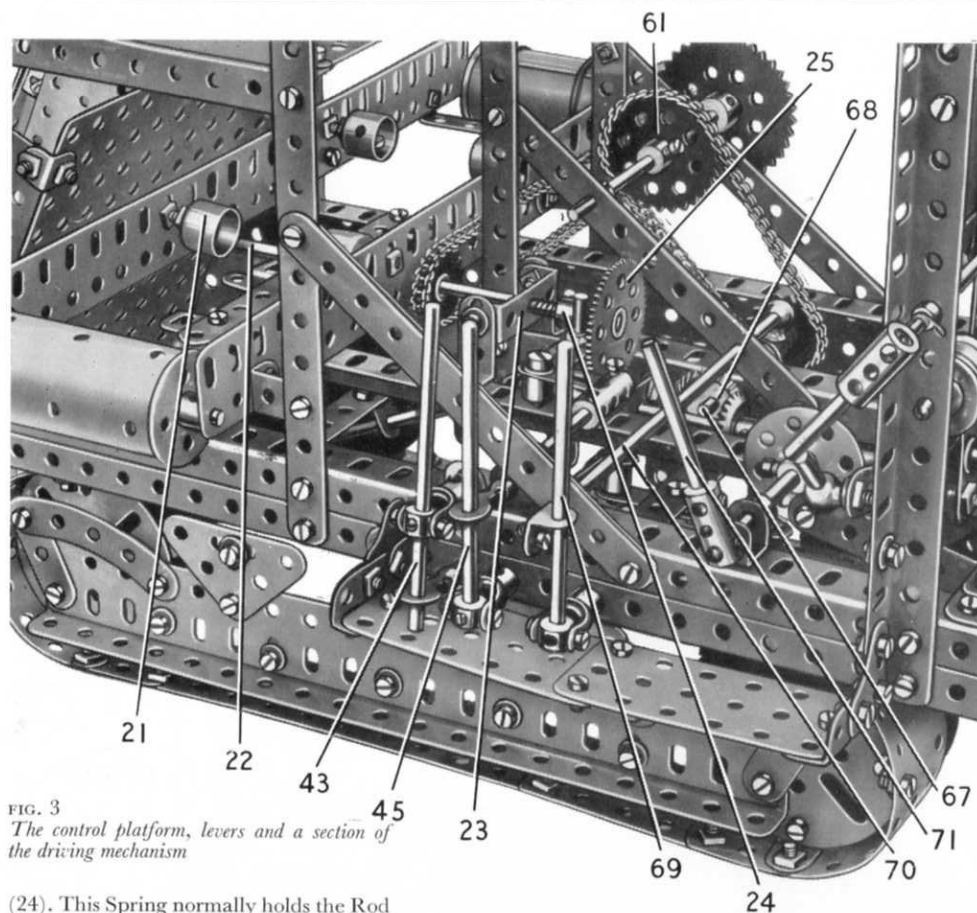
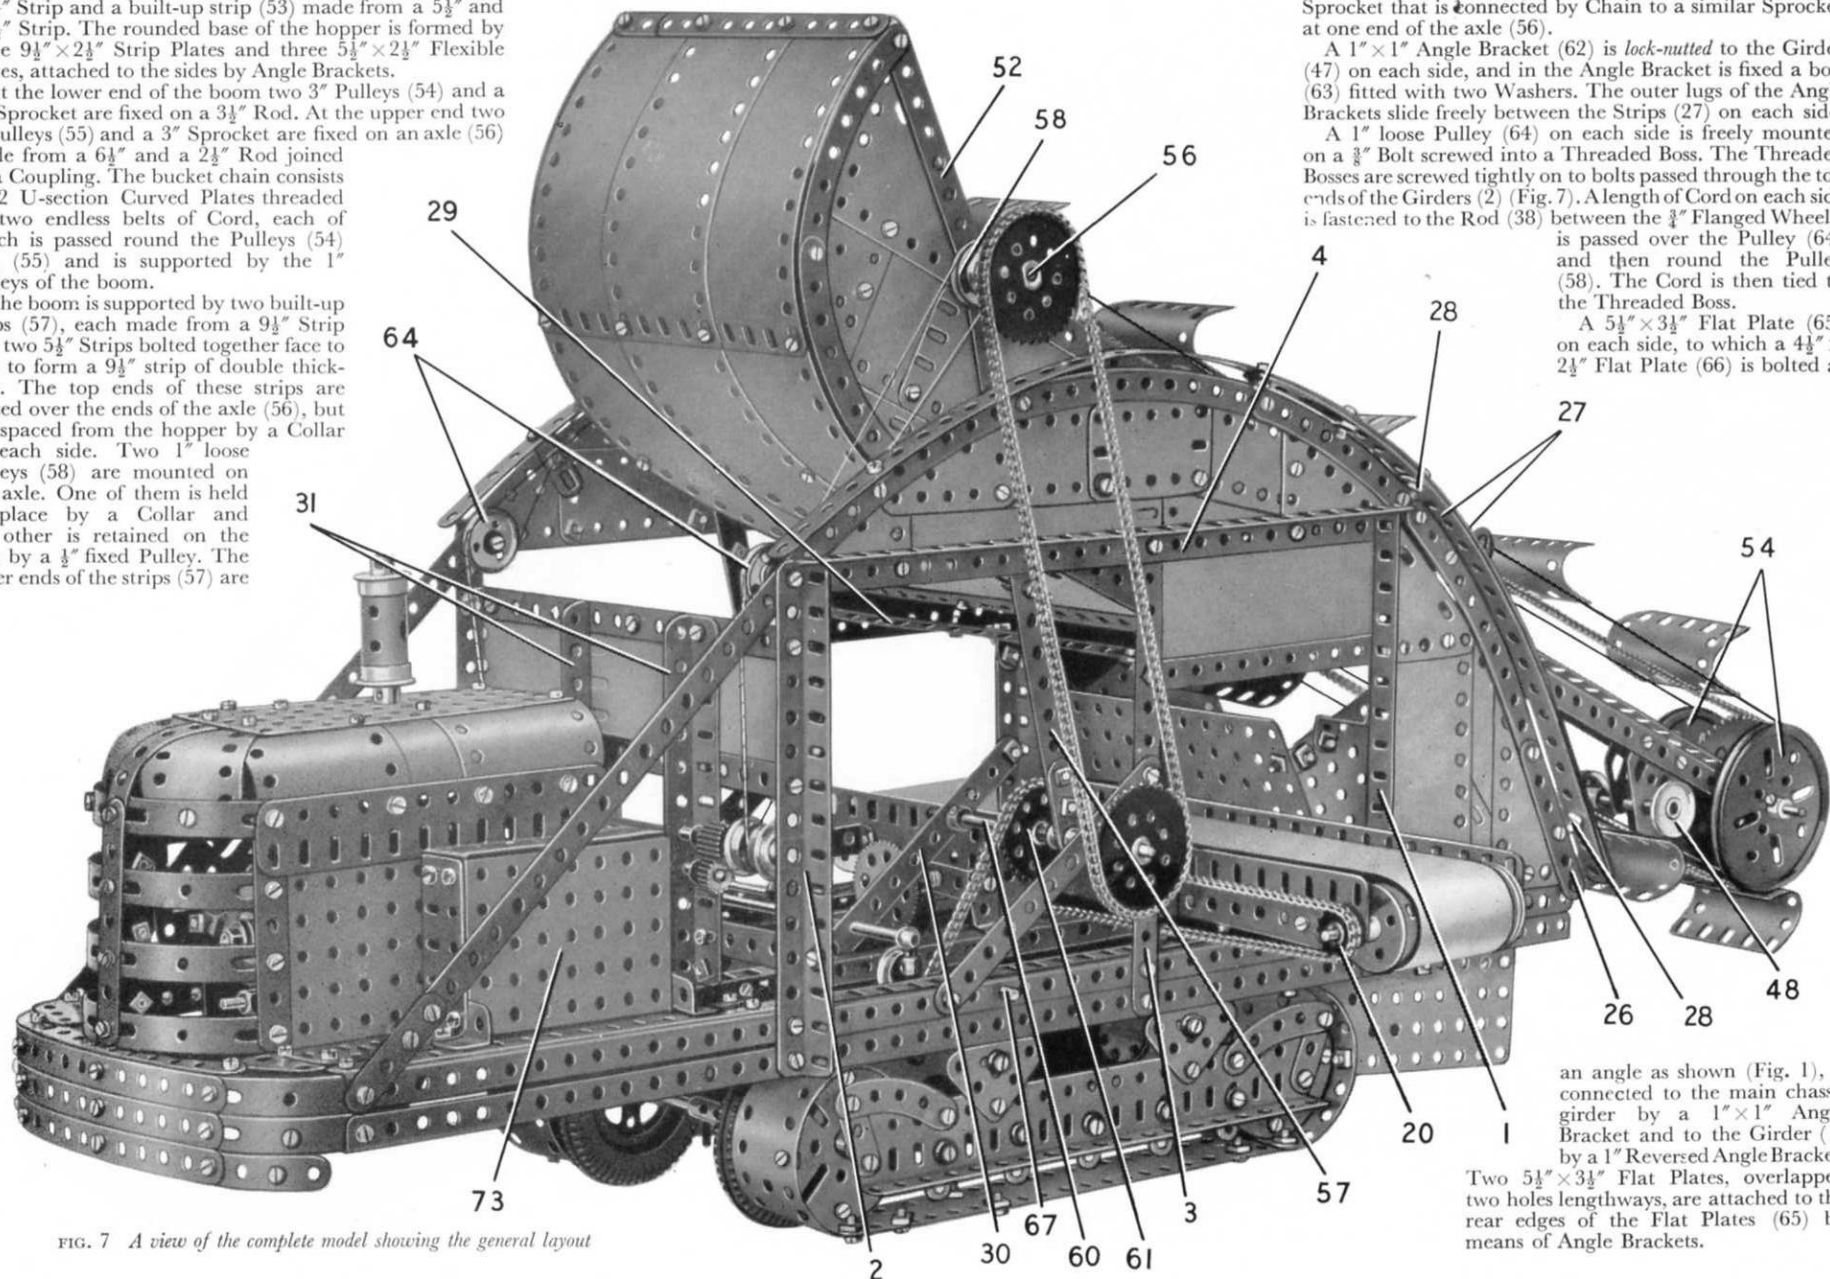

FIG. 3
FIG. 7 A view of the complete model showing the general layout
Each side-member of the chassis consists of two $2\frac{1}{2}$ " Angle Girders arranged to form a channel section girder by bolting to them two $7\frac{1}{2}$ " Angle Girders (1) and (2) and a $7\frac{1}{2}$ " Strip (3) (Fig. 7). The top ends of the Girders (1) and (2) and the Strip (3) are connected by bolting to them a $12\frac{1}{2}$ " Angle Girder (4). The side-members are connected by two built-up strips (5) and (6) (Fig. 2), each made from two $5\frac{1}{2}$ " Strips overlapped seven holes. Two similar built-up strips (7) and (8) are fixed in position, and a further built-up strip (9) (Fig. 3) is bolted across the chassis. The strip (9) is made from two $4\frac{1}{2}$ " Strips overlapped three holes. Two $18\frac{1}{2}$ " Angle Girders (10) are bolted to the strips (5) and (6) as shown.
The Motor switch is operated by a lever (71) (Figs. 3 and 6) formed by a $2\frac{1}{2}$ " Rod in a Coupling. The Coupling is fixed on a $3\frac{1}{2}$ " Rod mounted in Double Brackets bolted to the chassis, and the
The conveyor frame consists of two $12\frac{1}{2}$ " Flat Girders, one of which is attached to the Girders (1) (Fig. 7) by $1\frac{1}{2} \times \frac{1}{2}$ " Angle Brackets while the other is similarly attached to the Strips (3). A $3\frac{1}{2} \times \frac{1}{2}$ " Double Angle Strip (19) (Fig. 2) is bolted between the Flat Girders at one end.
The main conveyor rollers are formed by $1\frac{1}{4}$ " Flanged Wheels pressed into Cylinders, and each is fixed on a $4\frac{1}{2}$ " Rod mounted in the Flat Girders. The Rod that supports the driving roller carries a $\frac{3}{4}$ " Sprocket (20) (Fig. 7), and two $2\frac{1}{2}$ " Driving Bands are stretched round this roller. The belt can be made from a length of cloth or strong paper joined together at its ends. The supporting rollers (21) (Fig. 3) are Chimney Adap-
The Sprocket (20) is driven by a $1\frac{1}{2}$ " Sprocket on a $6\frac{1}{2}$ " Rod (22) (Fig. 3). This Rod is supported in the conveyor frame and in a $1\frac{1}{2} \times \frac{1}{2}$ " Double Angle Strip (23) that is attached to $1\frac{1}{2} \times \frac{1}{2}$ " Angle Brackets bolted to the Girders (10). A Compression Spring is fitted on the Rod between Double Angle Strip (23) and a Collar
(24). This Spring normally holds the Rod so that a 57-tooth Gear (25) on it is kept clear of the Pinion (15) (Fig. 8). The Gear and Pinion can, however, be brought into mesh by sliding the Rod, to engage the drive to the conveyor. The movement of Rod (22) is restricted by a Collar placed inside the conveyor frame, and is controlled by a lever (45) (Fig. 3). This lever is a $3\frac{1}{2}$ " Rod fixed in a Swivel Bearing attached to the chassis by a Pivot Bolt. The lever carries as shown a Rod and Strip Connector fixed on a $3\frac{1}{2}$ " Rod that slides in a Double Bracket bolted to the chassis. A Strip Coupling on the $3\frac{1}{2}$ " Rod is connected by a $\frac{3}{8}$ " Bolt to one arm of a Bell Crank, and this is mounted freely on a Pivot Bolt fixed in one of the Girders (10). The other arm of the Bell Crank carries a Threaded Pin that engages between the Collar (24) and the Gear (25).
A 1" loose Pulley (64) on each side is freely mounted on a $\frac{3}{8}"$ Bolt screwed into a Threaded Boss. The Threaded Bosses are screwed tightly on to bolts passed through the top ends of the Girders (2) (Fig. 7). A length of Cord on each side is fastened to the Rod (38) between the $\frac{3}{8}"$ Flanged Wheels, is passed over the Pulley (64) and then round the Pulley (58). The Cord is then tied to the Threaded Boss.
Drive to the Bucket Chain (Figs. 3, 5, 7 and 8)
A 4" Rod (67) (Fig. 3) is mounted in one of the Girders (10) and in one side of the chassis frame. The Rod carries a $\frac{3}{8}$ " Bevel Gear (68), a 1" Sprocket connected by Chain to the $1\frac{1}{2}$ " Sprocket (61), and a $\frac{3}{4}$ " Flanged Wheel. A Compression Spring is fitted on Rod (67) between the Girder (10) and the Flanged Wheel, and this normally holds the Rod in such a position that Bevel Gear (68) is clear of Bevel Gear (17). The two Bevel Gears can be meshed by moving a lever (69). The lever is a $3\frac{1}{2}$ " Rod held in a Swivel Bearing fixed on a Pivot Bolt bolted to the side of the chassis. An Angle Bracket passed over the lever is *lock-nutted* to a Rod and Strip Connector on a $6\frac{1}{2}$ " Rod (70) and a Handrail Coupling engages the $\frac{3}{4}$ " Flanged Wheel on Rod (67).
The side of the engine cover seen in Fig. 7 consists of a $5\frac{1}{2}" \times 2\frac{1}{2}"$ Flat Plate and a $5\frac{1}{2}"$ Flat Girder bolted at one end to a $3\frac{1}{2}"$ Strip and at the other end to a $3\frac{1}{2}"$ Flat Girder. The other side is formed by a $5\frac{1}{2}"$ Strip, a $5\frac{1}{2}"$ Flat Girder, a $3\frac{1}{2}"$ Flat Girder, a $3\frac{1}{2}"$ Strip and a $5\frac{1}{2}"$ Braced Girder attached to the $5\frac{1}{2}"$ Strip by two Hinges. A $5\frac{1}{2}"$ Angle Girder extended by a $2\frac{1}{2}"$ Angle Girder is bolted to the lower edge of each side of the engine cover, and these Girders are used to attach the structure to the chassis frame. At one side of the engine cover a box structure (73) is fitted (Fig. 7).